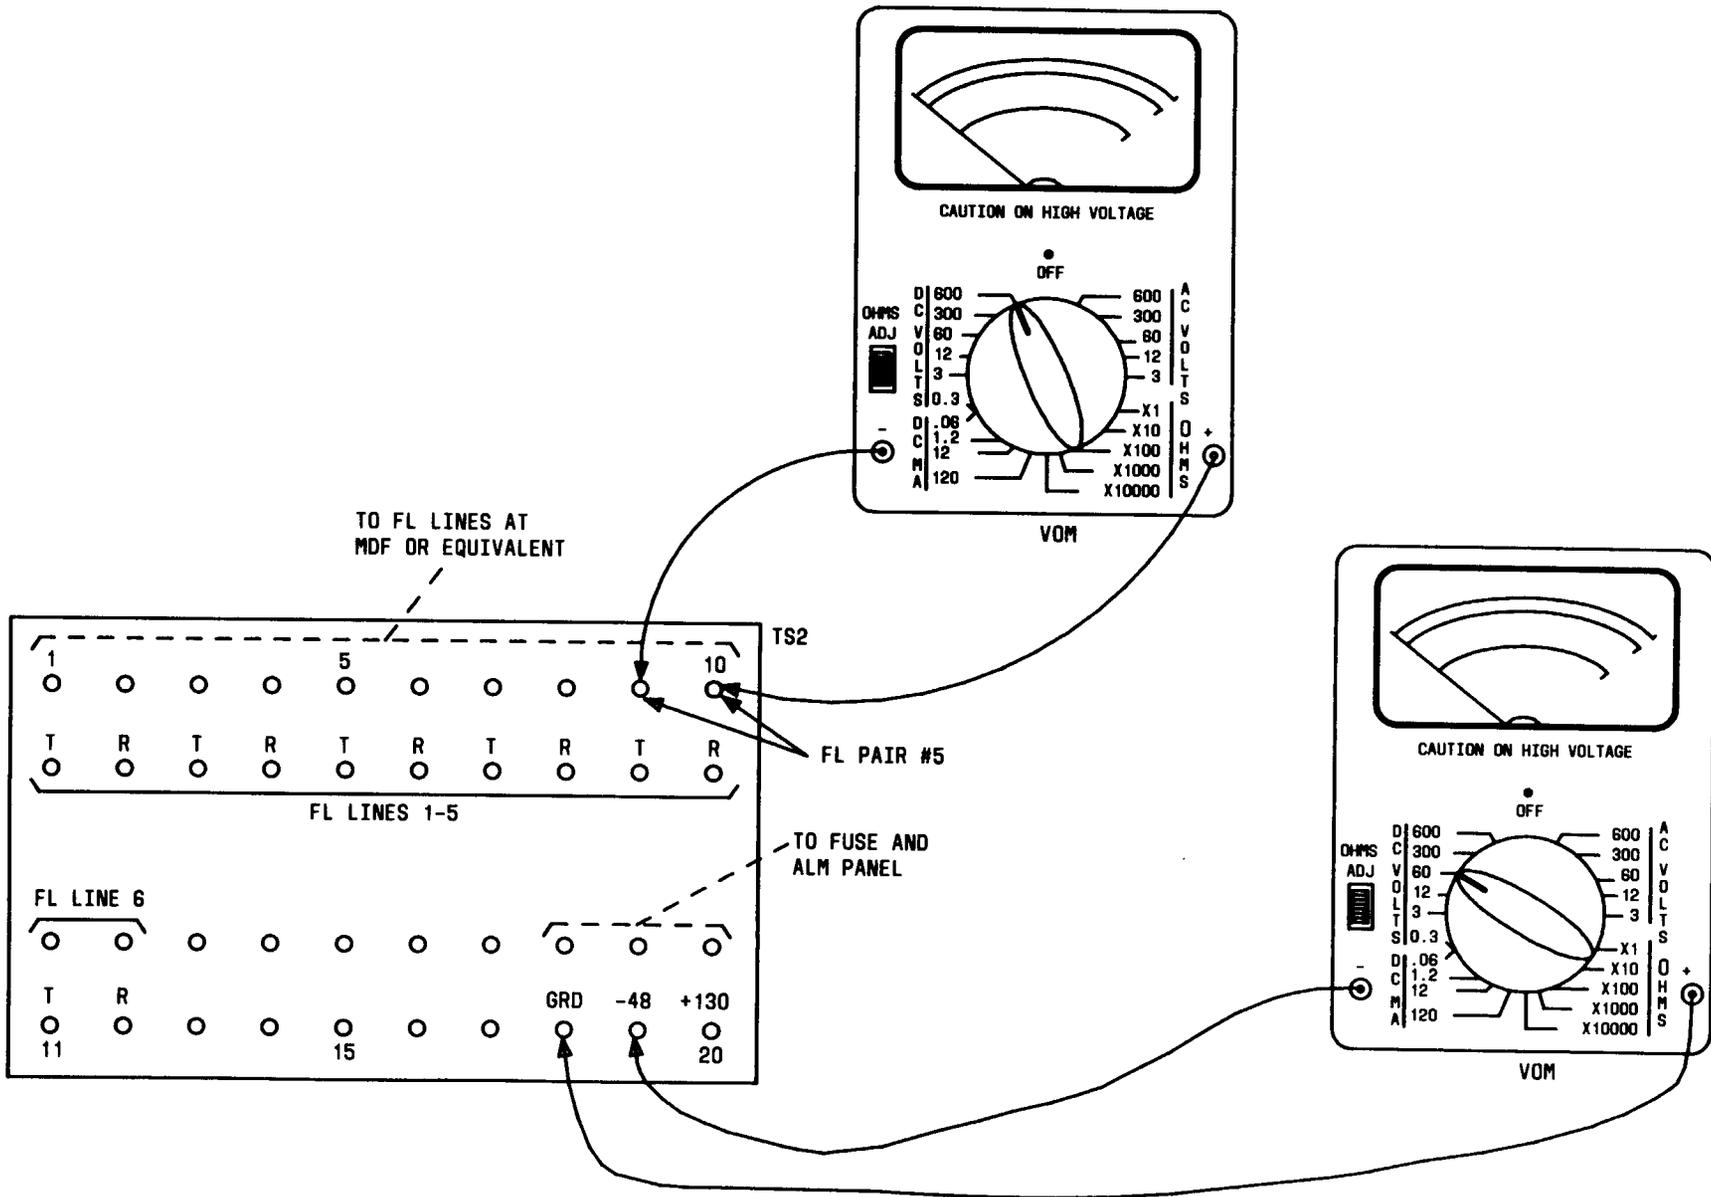

Fig. 1—Rear of Fault Locate Panel
5. On **TS2** at rear of FL panel (FIG. 1), connect DMM leads to **T** (tip) and **R** (ring) of **FL LINE** pins associated with FL line being tested and proceed to Step 9.
15. On **TS2**, at rear of FL panel (FIG. 1), connect DMM negative (-) black lead to pin 19 (-48) and positive (+) red lead to pin 18 (**GRD**).